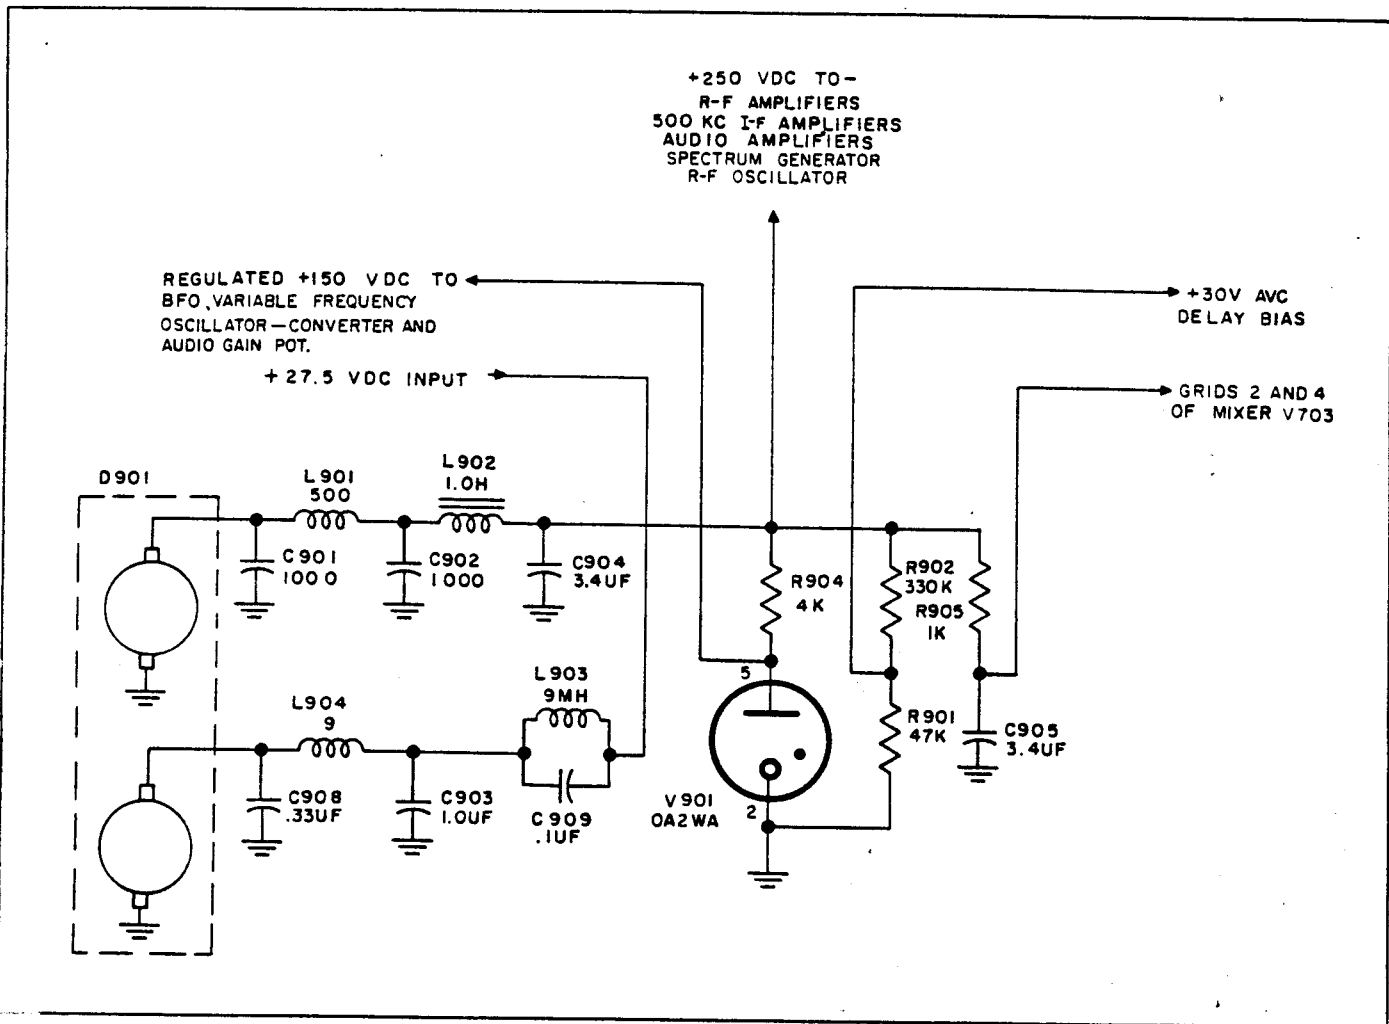

Figure 4-17. Dynamotor Power Supply. Simplified Schematic Diagram
**4-29. DYNAMOTOR POWER SUPPLY.** (See figure 4-17.) The dynamotor power supply supplies all voltages needed for operation of the R-648/ARR-41 Radio Receiver. The power input is supplied by a 27.5-volt d-c source. The 27.5-volt input is filtered by a parallel resonant circuit, consisting of L903 and C909, and by a pi-section filter, consisting of L904, C903, and C908. These filters prevent interference originating in the dynamotor from being coupled to the R-648/ARR-41 circuits and the primary power line. The filtered d-c is applied across the dynamotor low-voltage field, and the stepped-up output from the high-voltage field applied across the output filter, consisting of inductors L901 and L902 and capacitors C901, C902, and C904. The output of this filter is 250 volts d-c, which is used directly to supply the various plate voltages throughout the R-648/ARR-41, and is dropped to 30 volts by the divider arrangement of R902 and R901 for use in the avc gating circuit. Resistor R905 and capacitor C905 perform the function